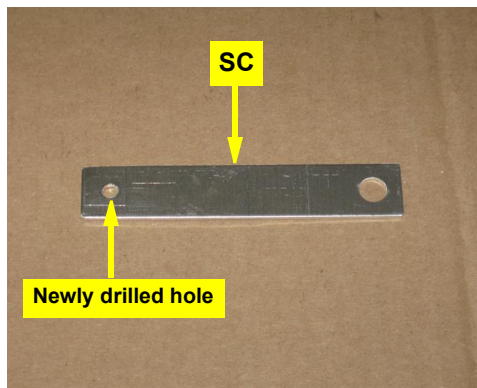

Figure 1a: Newly drilled sensor bracket
- a. Drill a 3/16" hole in the opposite end from the already drilled hole in the sensor bracket **SC** (Figure 1a).